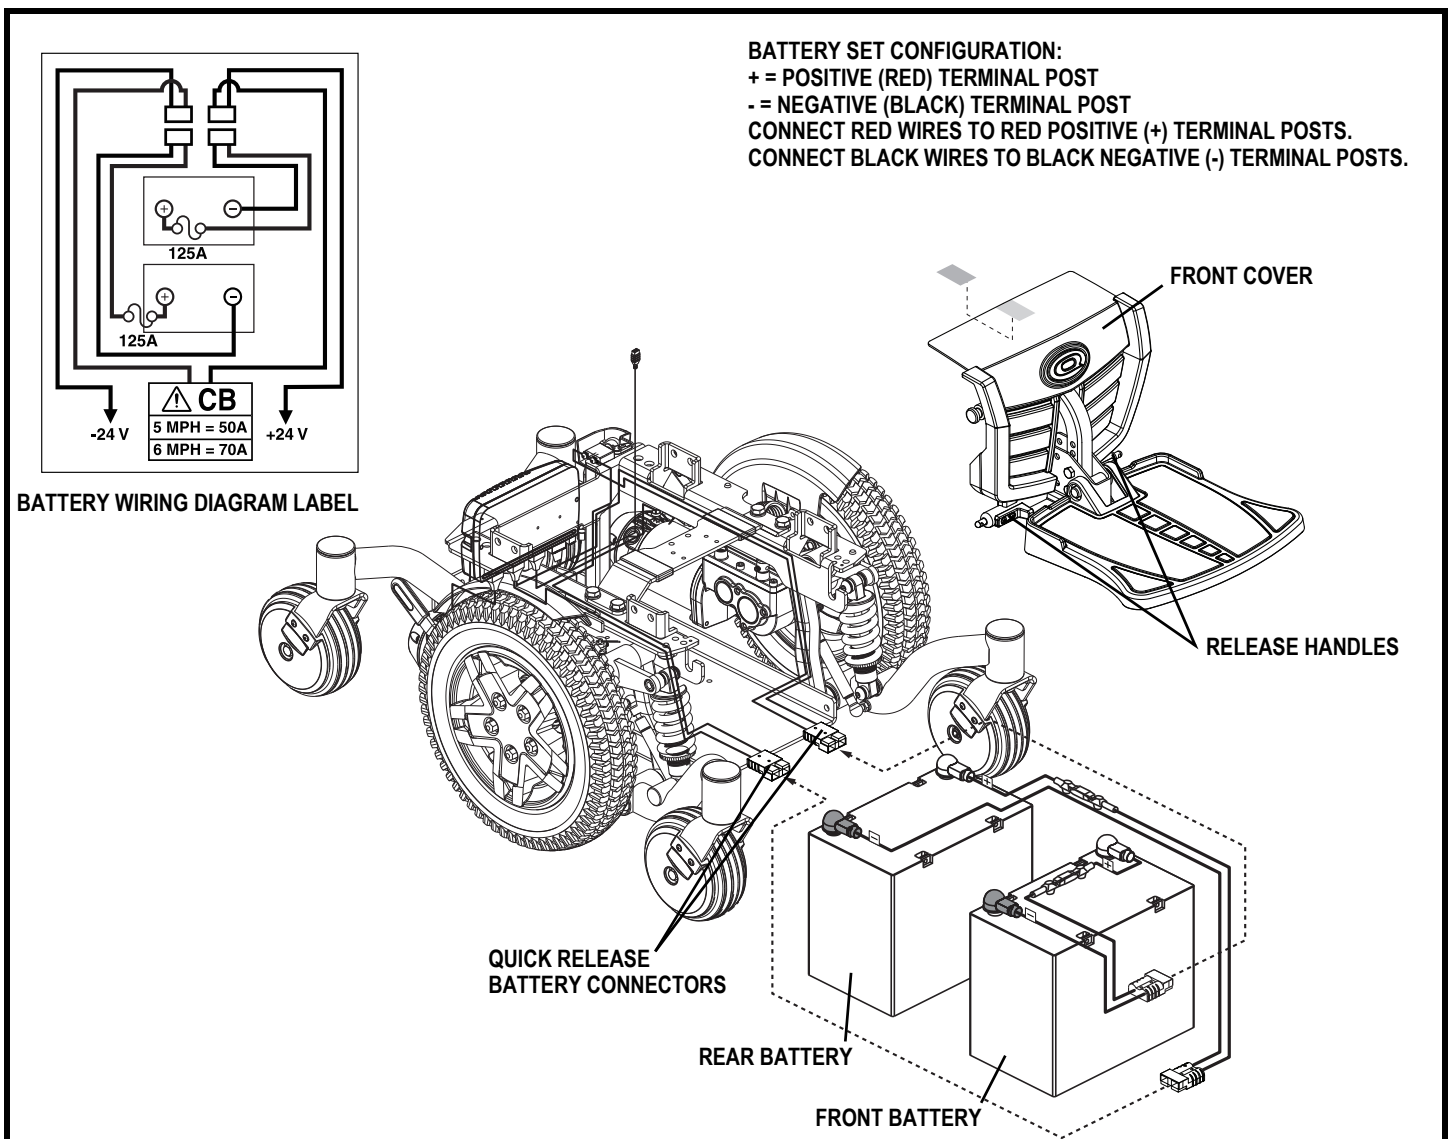

Figure 23. Battery Installation
3. Remove the front cover by squeezing the release handles (see figure 23) and lifting the foot platform bracket up and away from the power base.
4. Disconnect the quick release battery connectors. See figure 23.
7. Connect the battery harness to the new front battery according to the battery wiring diagram. See figure 23.
8. Connect the battery harness to the new rear battery according to the battery wiring diagram. See figure 23.